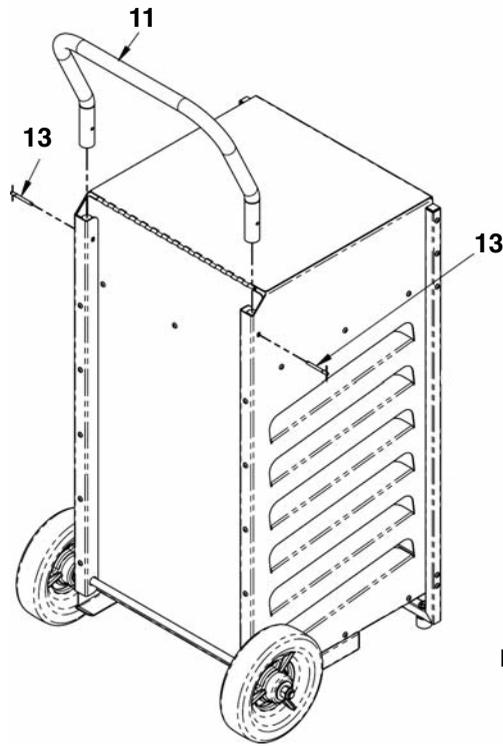

FIGURE 9
9. Install the handle (#11) into the top of the handle bar support tubes (#12) as shown in figure 9 and install the two quick release pins (#13) into the handle bar assembly.